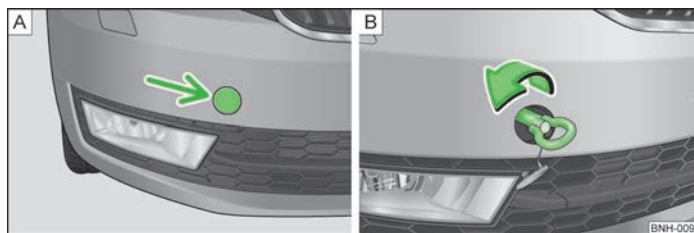

Fig. 119 Front bumper: Cap/installing the towing eye
- Press on the left half of the cap in the area of the arrow » Fig. 119 - A.
- Screw in the towing eye by hand to the left up to the stop » Fig. 119 - B.